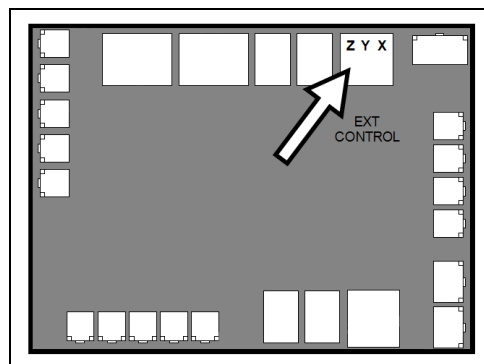

Figure 5
4. Connect the controller wires to the control board port labeled "Ext Controller" with the terminals labeled "Y" and "Z" as follows. See Figure 5.